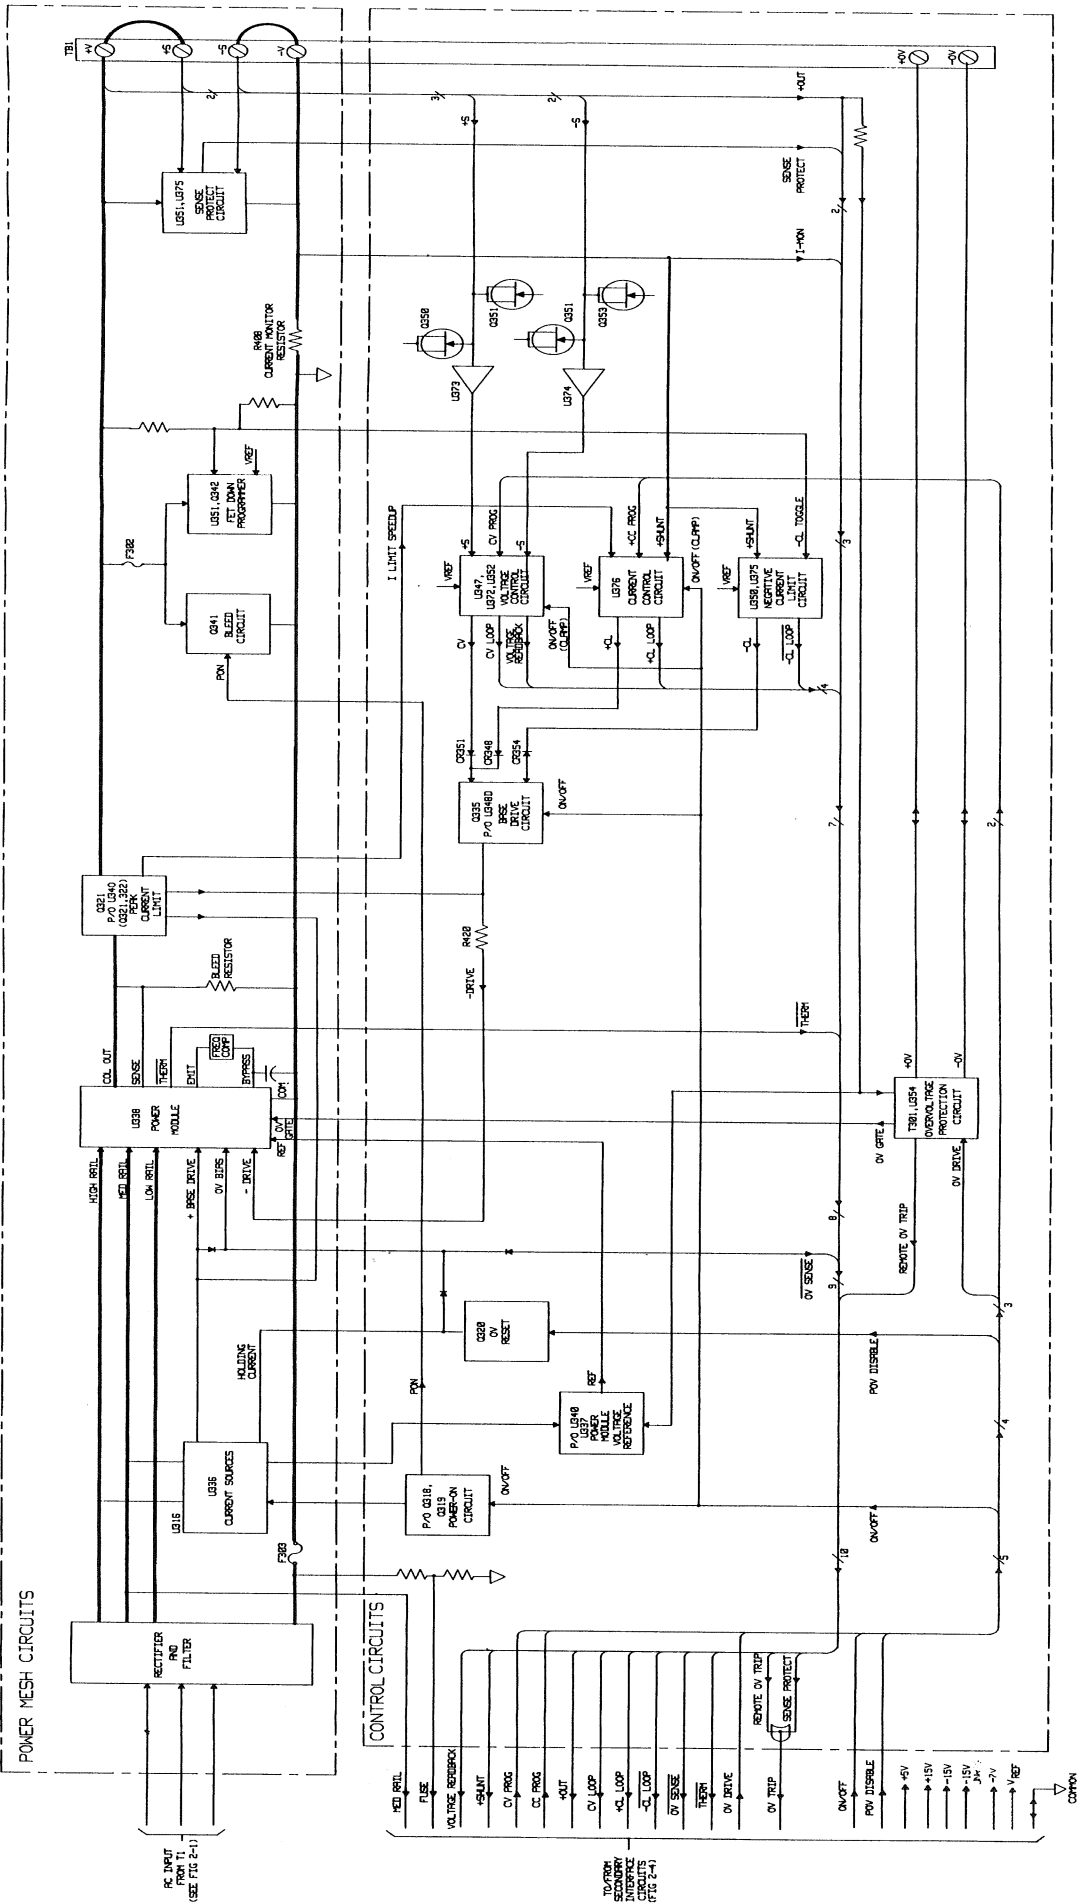

Figure 2-5. Output Board, Power Mesh and Control Circuits, Block Diagram
*Status Monitor* – this circuit consists of comparators to monitor the control loops, logic to decode these input line, and flip-flops to catch and hold changes. The inputs to the status comparators are the CV LOOP, + CL LOOP, and - CL LOOP signals from the power control circuits (see Figure 2-5). The outputs of the comparators are combined in logic circuits which then go into the set inputs of flip-flops which hold the status of CVO, + CLO, - CLO, and UNREG outputs. UNREG is decoded if the output is not regulated by a CV or CL control loop.
The status monitor circuit also receives OV SENSE and THERM inputs. The THERM signal is received from the power module(s) in the power mesh (see Figure 2-5) and indicates when an overtemperature condition exists. Note that when the microcomputer senses the overtemperature (OT) condition via data bus line D4, it shuts down the output. This circuit resets automatically and restores the output approximately 30 seconds after the temperature drops sufficiently for safe operation.
## 2-37 Power Mesh and Control Circuits (Figure 2-5)
The power mesh circuit in the upper half of Figure 2-5 converts the AC from the power transformer to regulated DC output power. The primary power control element is the power module hybrid (U338). The power mesh circuit generates a constant voltage or constant current output under control of the control circuits shown in the lower half of Figure 2-5. In addition to controlling the power mesh circuit, the control circuits send measurement and status data back to the GPIB controller and/or front panel via the interface circuits on the output board and the GPIB board.
The current control circuit receives an input from peak current limit circuit (in the current sourcing mode only) as shown in figure 2-5. When the peak current limit circuit (see paragraph 2-42) is activated, it immediately limits the conduction of the series regulators in the power module.